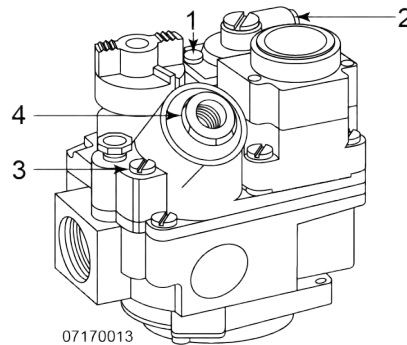

Figure 2-11 Gas Control Valve
The gas control valve regulates the flow of gas to the pilot and the main burner. The valve consists of: gas regulator (2), magnetic plug (4), pilot gas tube, gas valve knob, pilot adjustment cap (3) and screw, gas outlet and inlet ports, thermocouple connector, and electrical connection. The gas control valve also has a dial reference point (1)- OFF/PILOT/ON. See Figure 2-11 *Gas Control Valve*, page 33.